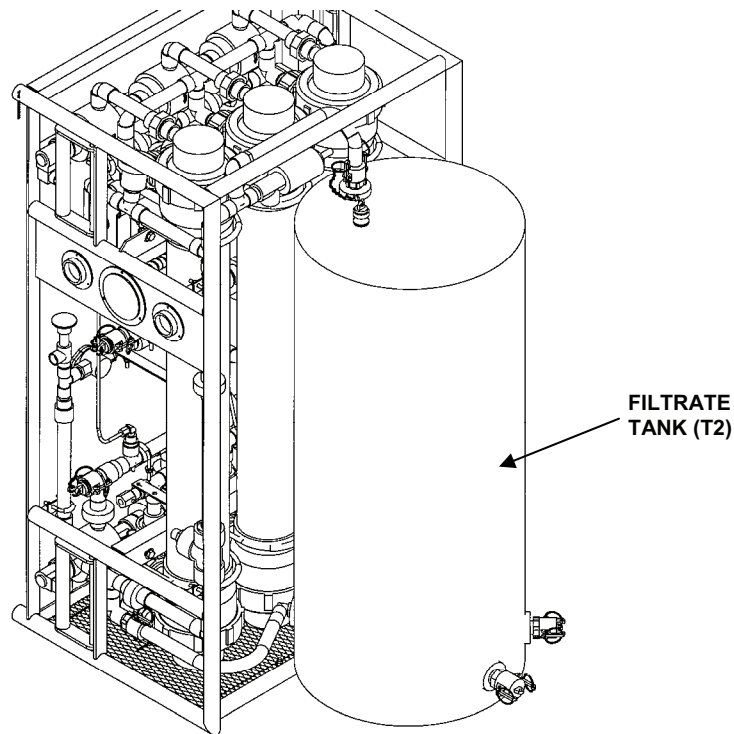

Figure 1. Fabric Filtrate Tank T2.
1. Make sure the fabric filtrate tank (T2) is full. See Figure 1. Shut down the high-pressure pump according to procedure. See WP 0012.